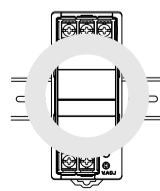

Fig. 3
- | Standard Mounting (Fig.3) | Valid |